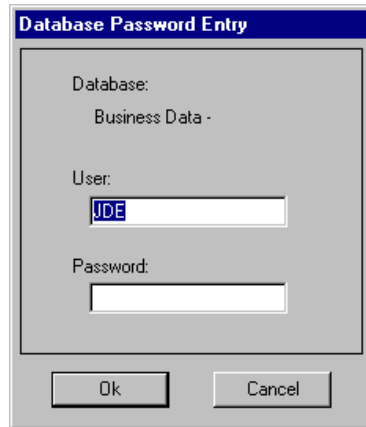

Figure 110. OneWorld Database Password Entry
35. You may be prompted for the JDE password (Figure 110). Type the password for JDE, and click **OK**.
45. You may be prompted for the JDE password, similar to the example in Figure 110. Type the password for JDE, and click **OK**.
- n. You may be prompted for the JDE password, similar to the display in Figure 110 on page 279. Type the password for JDE, and click **OK**.